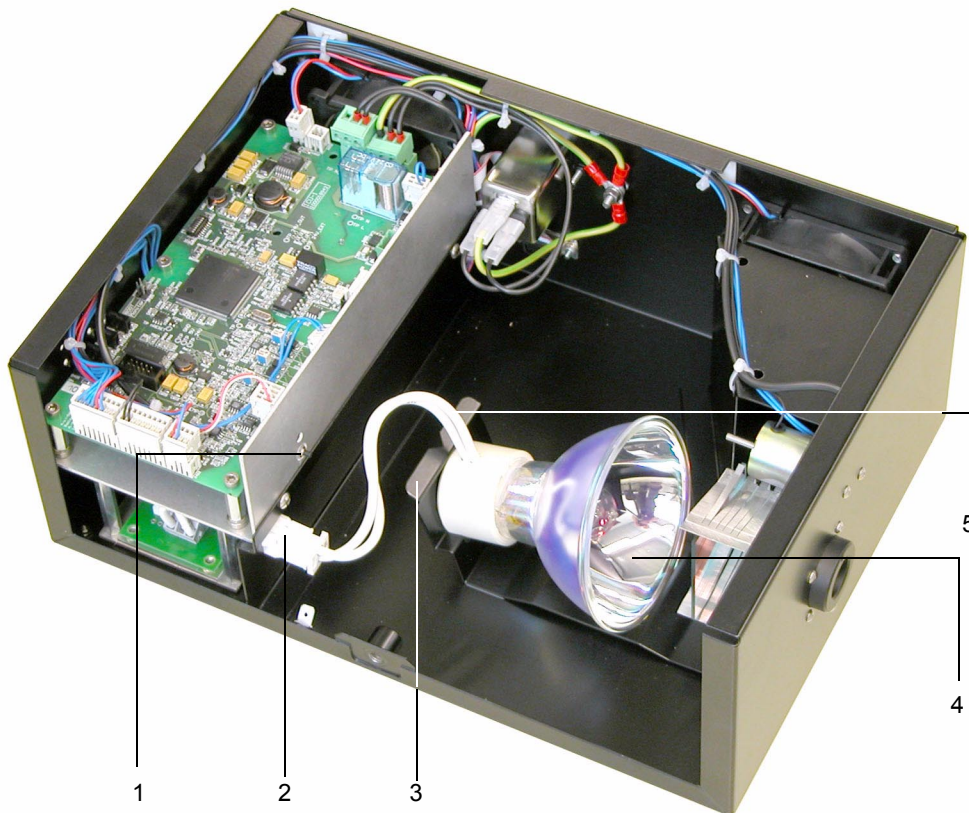

Fig. 18: Replacing the HQI Lamp
4. **Fig. 18:** Disconnect the lamp plug (2). To avoid injuries from sharp edges of the mounting frame, use a tool like e.g. a screwdriver.
5. Push the bracket (3) away from the HQI lamp (4) with one hand and take the spent lamp out with the other.
6. Push the bracket (3) away from the HQI lamp holding with one hand and insert the new HQI lamp (4) with the other.
7. Install the HQI lamp in such a way that its mains supply cable (5) faces upwards.
8. Insert the mains supply cable's plug (2) into the respective socket.